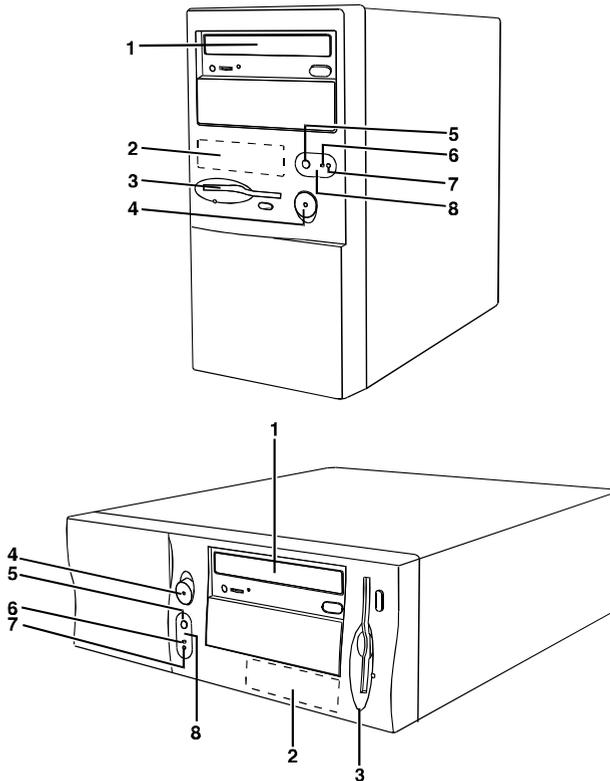

Figure 1-2. System Unit Front Panel
Figure 1-2 shows the front panel components of the system unit. Descriptions of the components follow.
2. Turn on the system by pressing the Power Button (Figure 1-2 #4).